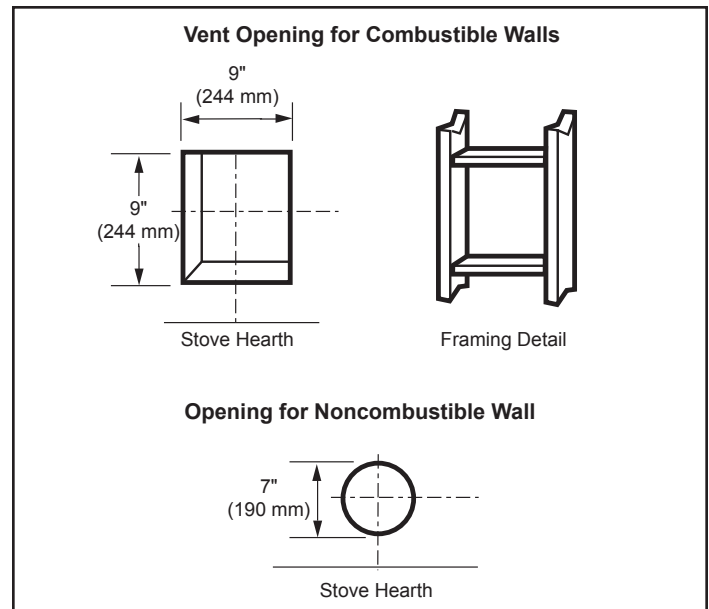

Figure 3.17 - Locate Vent Opening on Wall
1. Locate vent opening on the wall. It may be necessary to first position the stove and measure to obtain hole location. Depending on whether the wall is combustible or noncombustible, cut opening to size. Figure 3.17 (For combustible walls first frame in opening.) Combustible Walls: Cut a 9"H x 9"W (244 x 244 mm) hole through the exterior wall and frame as shown. Figure 30 Noncombustible Walls: Hole opening must be 7" (178 mm) in diameter.